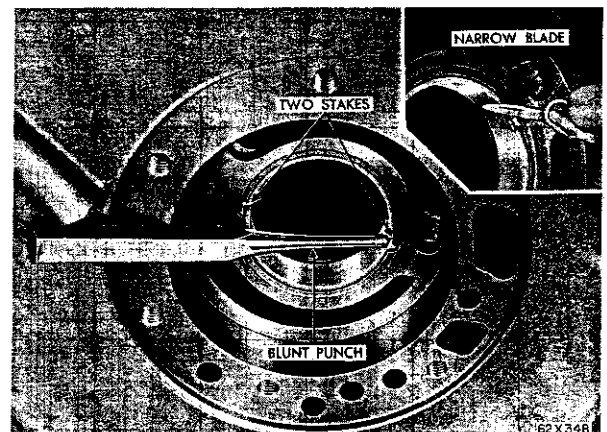

Fig. 64—Staking Front Pump Bushing
(6) Drive the bushing into the housing until the tool bottoms in the pump cavity. Be careful not to cock the tool during installation.
(7) Stake the bushing in place by using a blunt punch or similar tool (Fig. 64). A gentle tap at each stake slot location will suffice.
(8) Using a narrow-bladed knife or similar tool, remove the high points or burrs around the staked
area (Fig. 64). Do not use a file or similar tool that will remove more metal than is necessary.